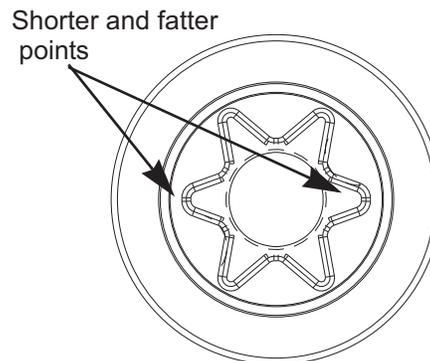

Figure 8.5
**NOTE:** The star on the timed deck spindle has the tips of two points shaped differently to time the blade to the spindle. See Figure 8.5.